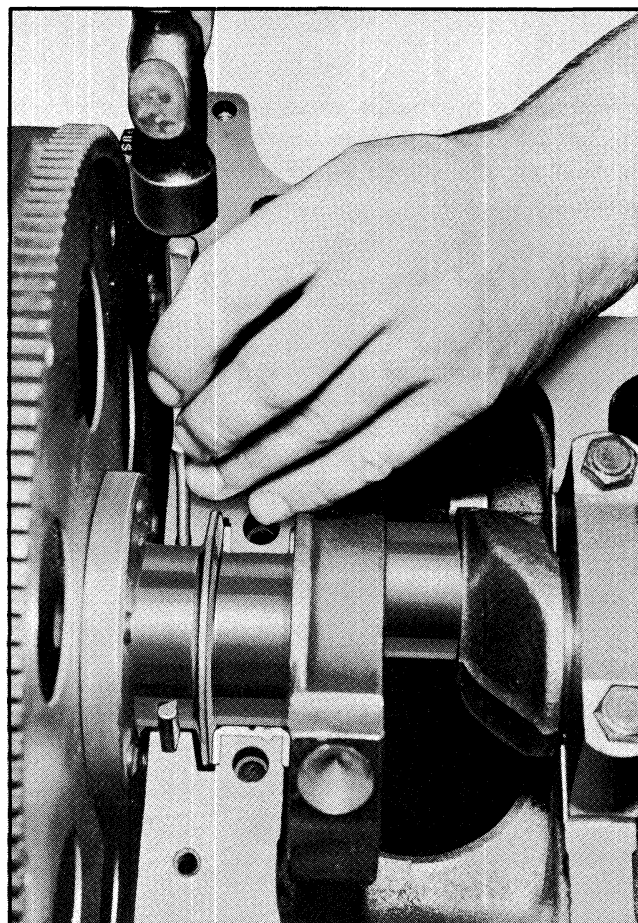

Fig. 6-56 Removing Oil Seal
6. To replace the upper half of the seal, use a small hammer and brass pin punch to tap one end of oil seal (Fig. 6-56) until it protrudes far enough to be removed with pliers (Fig. 6-56). Push new seal into place.